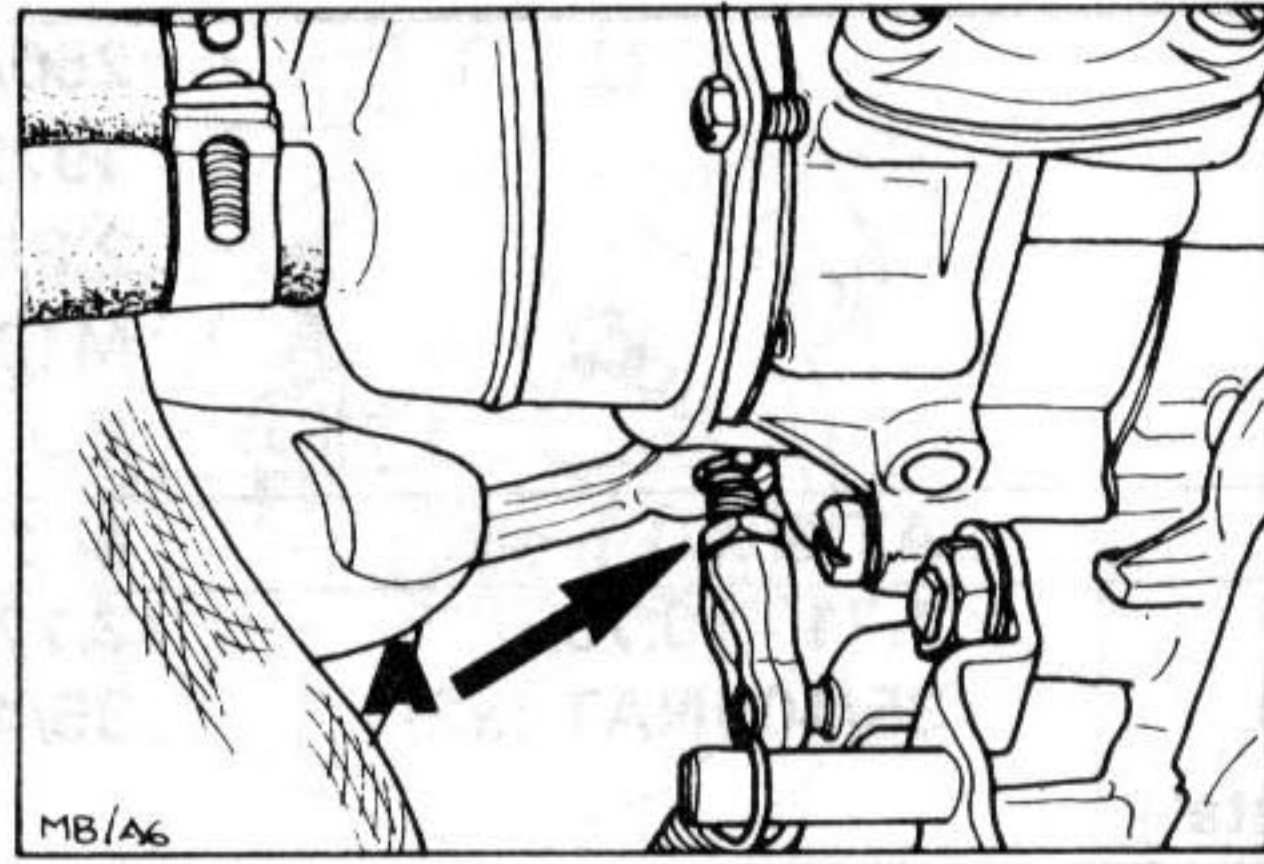

Fig. 6 Fast idle speed adjustment
- e) Note engine fast idle speed and adjust if necessary. Alter length of connecting rod (A) below choke housing to obtain correct setting (Fig. 6).